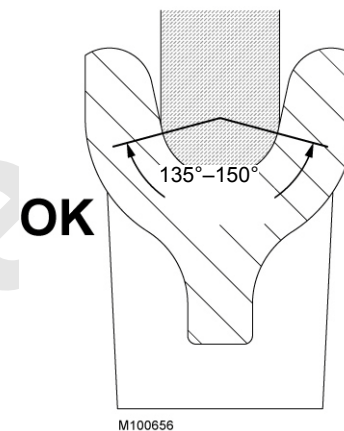

Figure 5-39.
3. For steel sheaves, check depth, width, and contour of each sheave using a groove gauge as shown in Figure 5-39. Replace sheaves that have over or under size grooves.